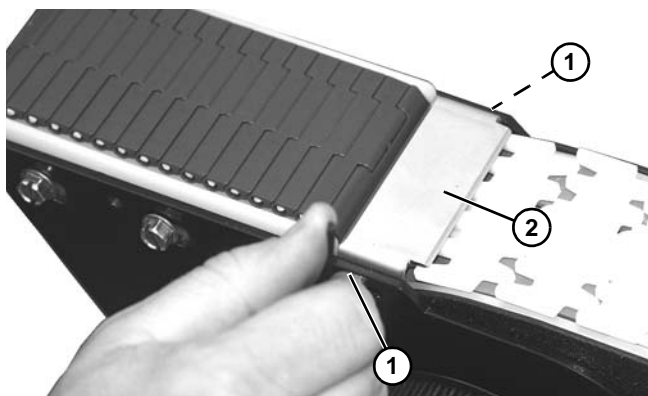

Figure 163
6. Remove two socket head screws (**Figure 163, item 1**) and pinch guard (**Figure 163, item 2**).